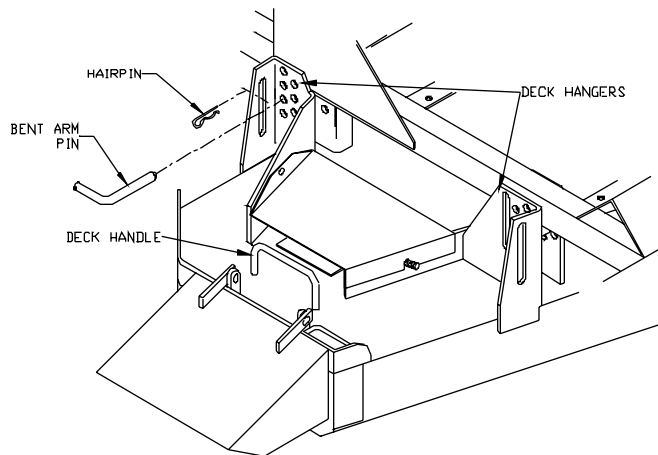

FIGURE 3b
3. To change cutting heights pull the hairpins out of the bent arm pins. While hanging on to the deck handle, pull the bent arm pins out of the deck hangers, front and back. Choose the desired cutting height position and relocate bent arm pins and the hairpins. Repeat steps on the other side. (See Fig. 3b)